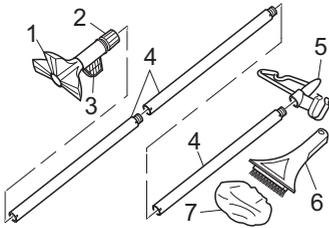
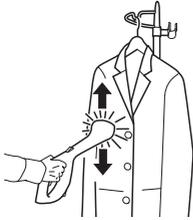

Fig. 16
Fig. 18
2. Screw the individual screw-in insert tubes (Fig. 16/4) into each other.
3. Screw the clothes hook (Fig. 16/5) onto the upper end of the screw-in insert tube.
4. Push the stand (Fig. 16/1) onto the lower end of the screw-in insert tube. Screw the clamping screw (Fig. 16/2) in tightly.
7. Push the textile maintenance nozzle (Fig. 16/6) onto the handle of the Vaporflex.
5. Wait until sufficient steam is coming out of the textile maintenance nozzle. Then guide the textile maintenance nozzle to the textile and steam it with slow up and down movements (Fig. 18). Use the cotton cover (Fig. 16/8) if necessary to remove hair and fluff better from the piece of textile.